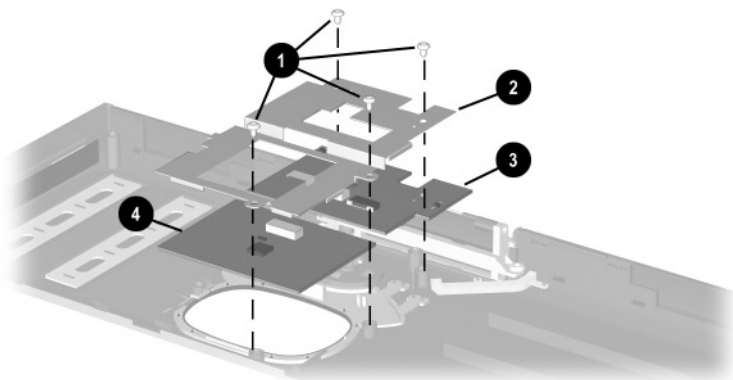

Figure 5-33. Removing the TouchPad Components on TouchPad Models
7. Remove the four TM2.5 × 5.0 screws **1** that secure the TouchPad, TouchButton board, and TouchPad bracket to the palm rest (Figure 5-33).